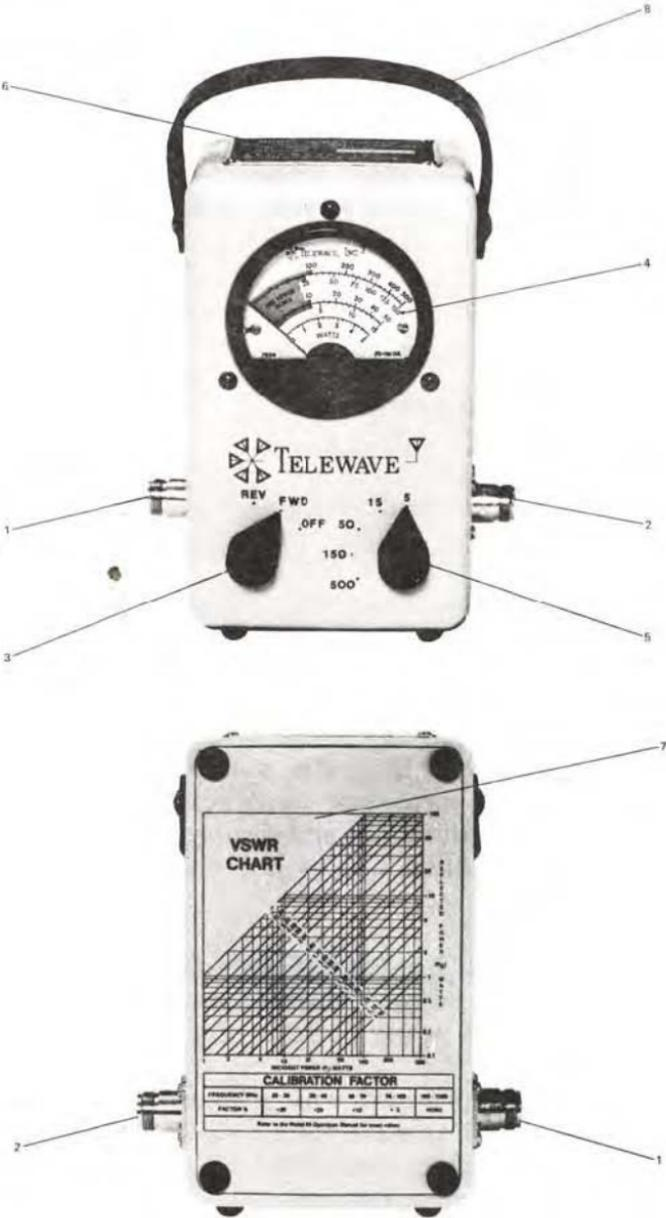

Figure 2-1 – Model 44 Broad Band RF Watt Meter – Controls and Indicators
2.01 The physical details of the Model 44 Broad Band RF Watt Meter are illustrated in Figure 2-1 and the functions of these elements are tabulated for the user in Table 2-1.
5.02 The following procedure will assist the user in preparation for making an rf power measurement. Refer to Figure 2-1.
5.03 The following procedure will assist the user in making an incident or forward power measurement. Refer to Figure 2-1.